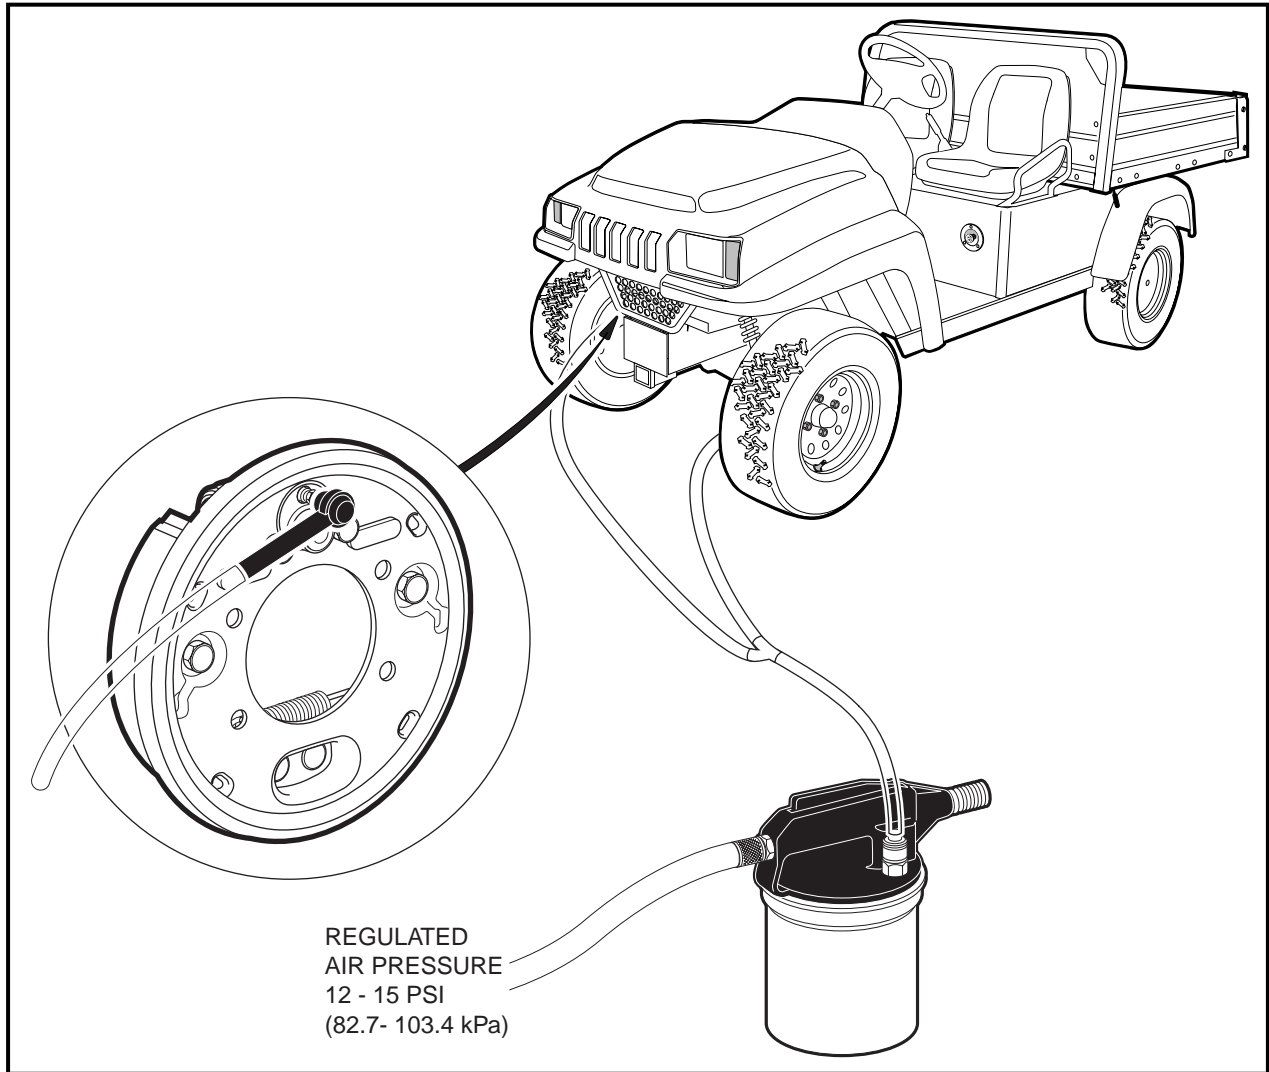

Figure 6-22 Front and Rear Brake Bleeding
6. **Front Brakes Only:** Connect the two hose fittings to a vacuum type brake bleeder to the brake bleeder valves on each of the front brake clusters (**Figure 6-22, Page 6-29**). Proceed to step 8.
7. **Rear Brakes Only:** Connect the two hose fittings to a vacuum type brake bleeder to the brake bleeder valves on each of the rear brake clusters (**Figure 6-22, Page 6-29**). Proceed to step 8.